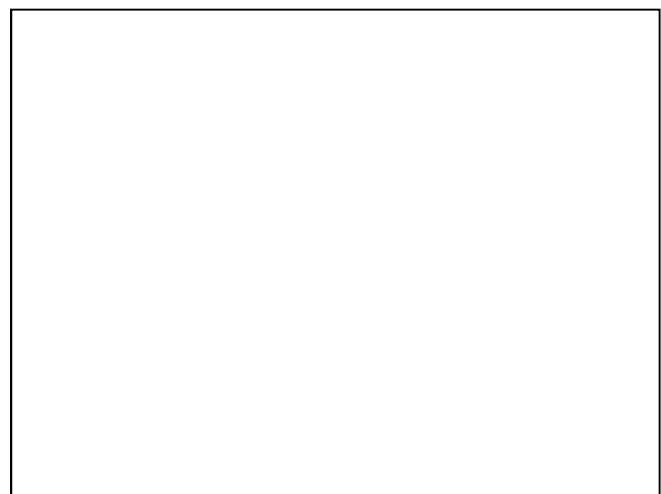

Figure 14
- Make sure the whole surface of the tape is adhered to the flap and vapor barrier with no gaps in the vertical cut (see Figure 14).